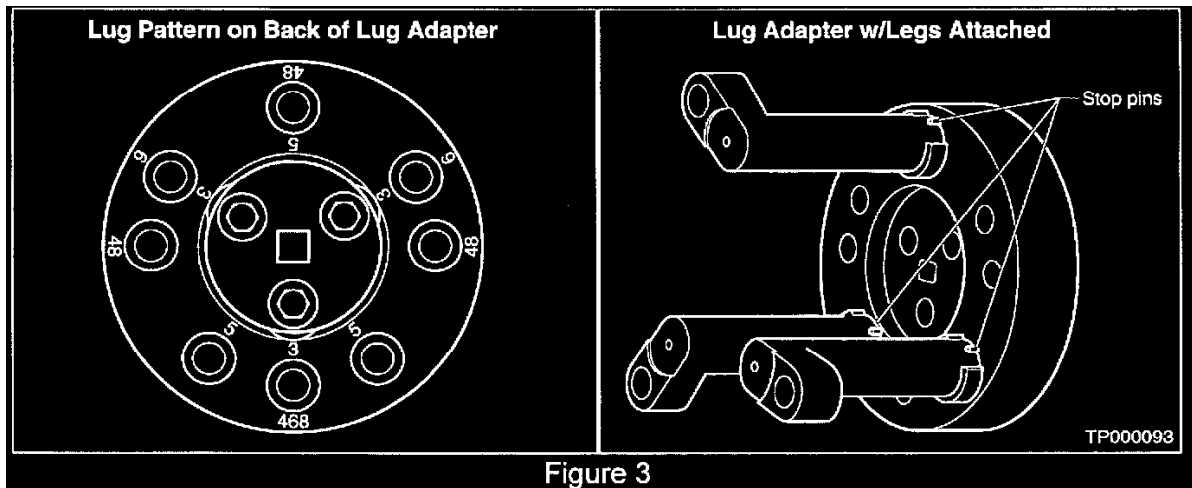

Figure 3
4. Assemble the legs on the lug adapter according to the lug pattern of the vehicle being worked on (see Figure 3). Then tighten the bolts that secure the legs to the adapter, making sure the legs are flat against the adapter and freely rotate.
5. Orient all legs to the full outside position, against the stop pin (see Figure 3).